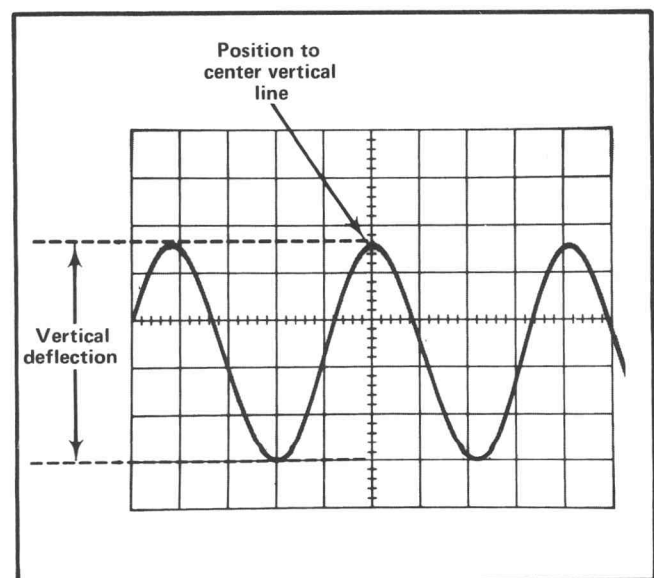

Fig. 2-11. Measuring peak-to-peak voltage of a waveform.
6. Turn the vertical POSITION control so the lower portion of the waveform coincides with one of the graticule lines below the center horizontal line, and the top of the waveform is on the viewing area. Move the display with the horizontal POSITION control so one of the upper peaks lies near the center vertical line (see Fig. 2-11).
Example. Assume a peak-to-peak vertical deflection of 4.6 divisions (see Fig. 2-11) using a 10X attenuator probe and a VOLTS/DIV switch setting of .5.